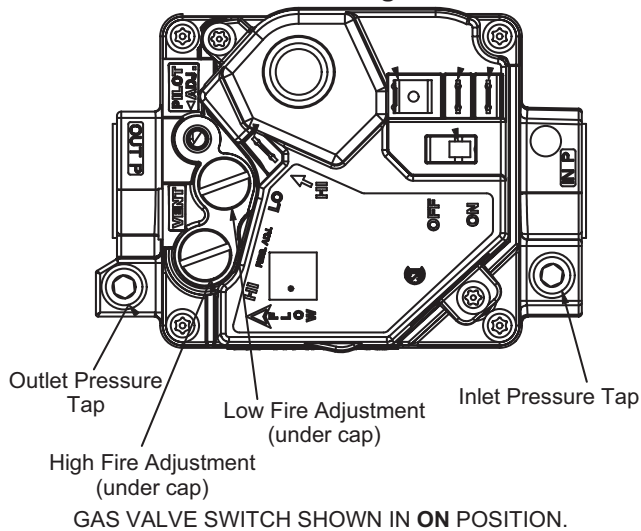
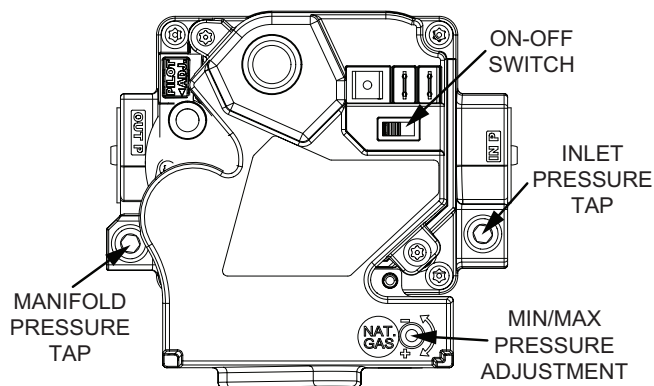

FIGURE 39
FIGURE 40
- 5 - Turn gas valve switch to **OFF**. See FIGURE 39 and FIGURE 40.
- 6 - Wait five (5) minutes to clear out any gas. If you then smell gas, **STOP!** Immediately call your gas sup-
- 7 - Turn gas valve switch to **ON**. See FIGURE 39 and FIGURE 40.
After line pressure has been checked and adjusted, check manifold pressure. Move test gauge to the outlet pressure tap located on unit gas valve GV1 and or GV3. See FIGURE 39 for location of pressure tap on the gas valve.
The manifold pressure is factory set and should not require adjustment. If manifold pressure is incorrect and no other source of improper manifold pressure can be found, the valve must be replaced. See FIGURE 39 for location of gas valve (manifold pressure) adjustment screw.